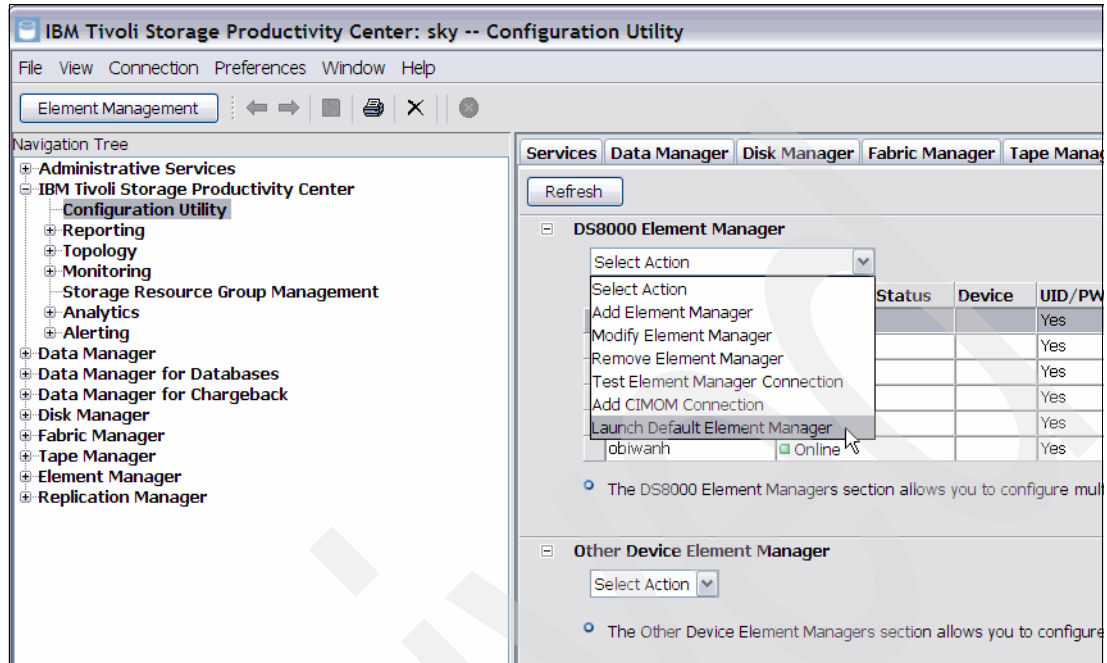

Figure 13-5 SSPC: Select DS8700
- Once the Element Manager is launched, click the disk system you want to access, as shown in Figure 13-5.